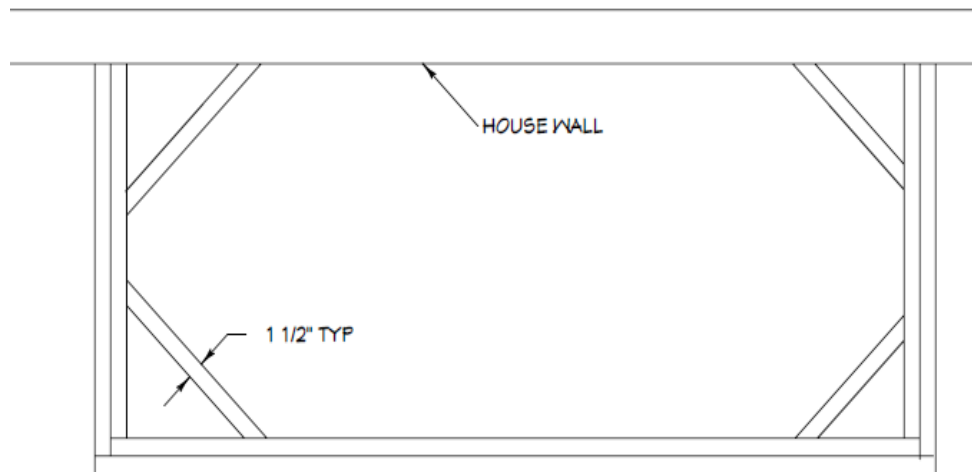

Figure 6-2. Porch Bracing.
8. At the house wall, measure the distance between the two outside faces of the end pieces. Cut one 2x6 to this length, and one 3" shorter. Lift the shorter of the two into place and nail it to the ends of the inside 2x6 end pieces, keeping the ends flush top and bottom, and the outside end pieces tight. Nail the longer of the two pieces to the ends of the outside end pieces, keeping the ends flush with the outside face of the end piece. See Figure 6-2. Use three ¾" Paslode nails at each joint. Nail the 2x6 pairs together with three ¾" Paslode nails every 24" along the length of the headers. Use a clamp or other method to keep the top and bottom edges flush. Put the nail in at an angle to be sure the points do not protrude.
9. Cut four 2x6 pieces about 40" long to be used as diagonal braces, after checking the length required. Cut a 45° bevel on each end. These will be installed diagonally in all four inside corners of the porch framing to hold them square. See Figure 6-2.